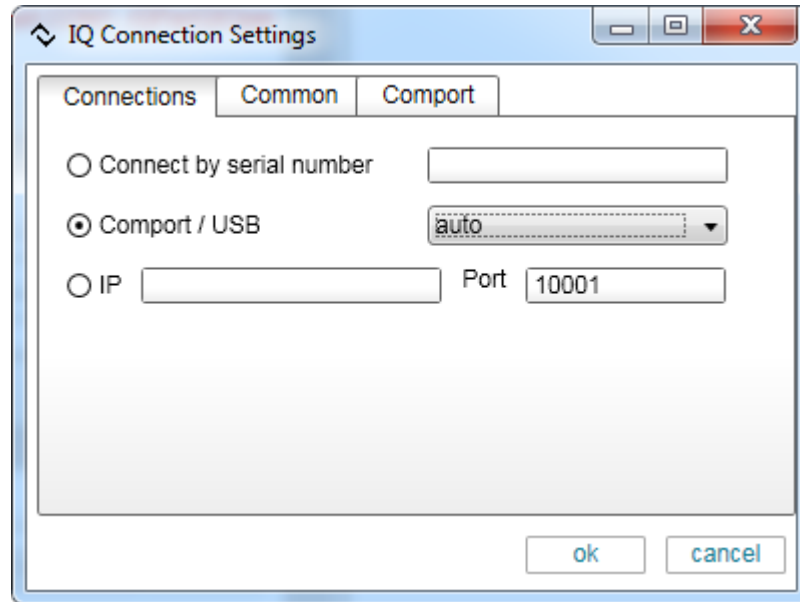

Figure 8. IQ Connection Settings window.
8. Make sure you are in the **iqMaster** tab, then press the **Setting** button. In the **IQ Connection Settings** window, select **auto** in the **Comport / USB** drop-down menu. Press **OK** to save setting as shown in Figure 8.